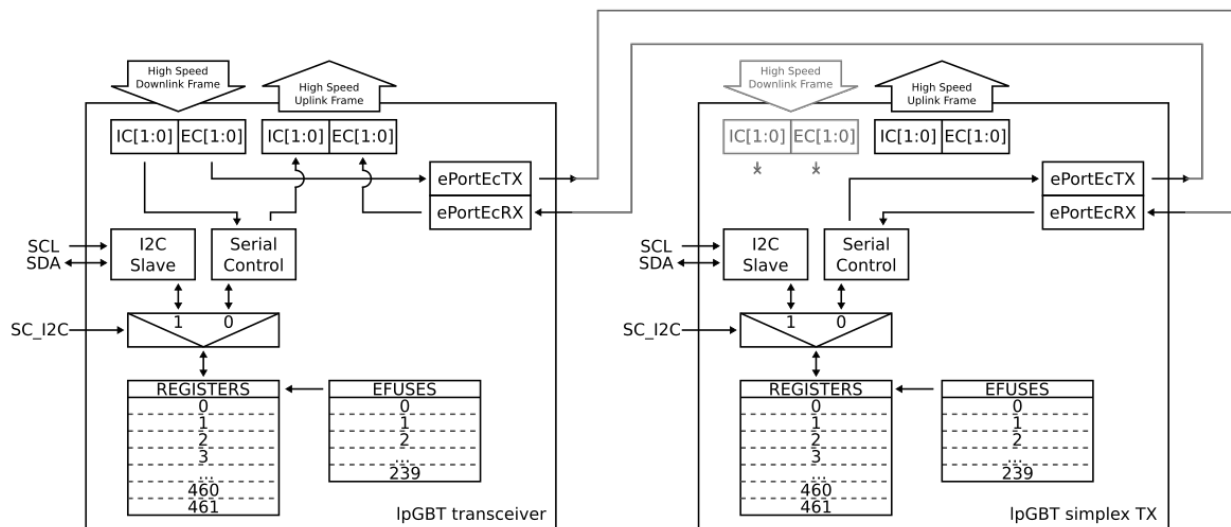

Fig. 3.1: lpGBT configuration
Figure Fig. 3.1 illustrates the different options for accessing the lpGBT registers.
2. Through the serial interface. In the transceiver mode, the data for the serial interface is taken from the GBT frame and hence requires that the full duplex link is operational to allow write and read access (see left IpGBT in figure Fig. 3.1). In the simplex mode, the data is provided by ePortRxEc/ePortTxEc channel (see right IpGBT in figure Fig. 3.1). In order to use this interface the external pin `SC_I2C` has to be set to 0 (which is the default value when the pin is left unconnected). This interface is described in detail in chapter Section 3.4.
The availability of IC or EC configuration interfaces is dictated by the mode of operation. If lpGBT is configured in transceiver mode, IC channel is used to control the chip. Otherwise, in simplex transmitter or simplex receiver modes, EC channel is used to control the chip (see Fig. 3.1).